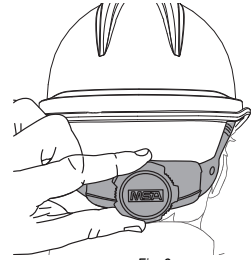

Fig. 3
- (5) Turn knob counter-clockwise to open ratchet band to its maximum size. Turn knob clockwise to tighten and fit (Figure 3).
- (6) The helmet must be worn the peak facing forward.